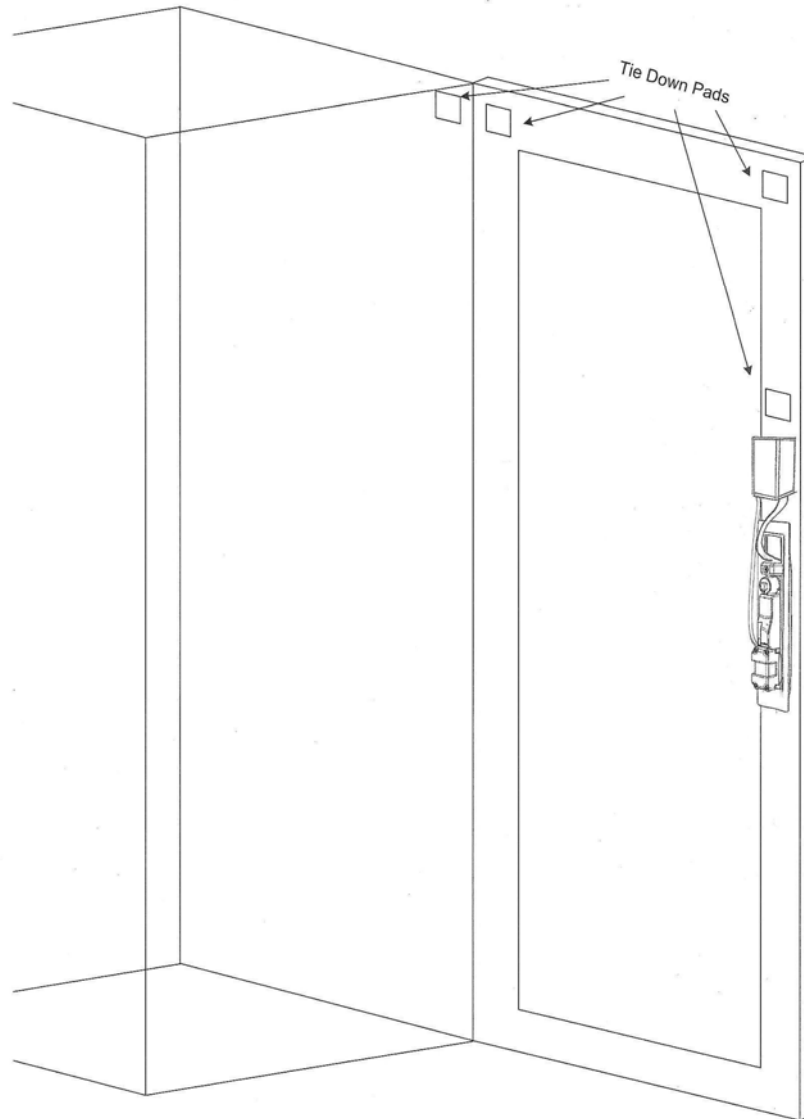

Figure 10
- Remove the protective cover from each Tie Down Pad and situate as shown in Figure 10.